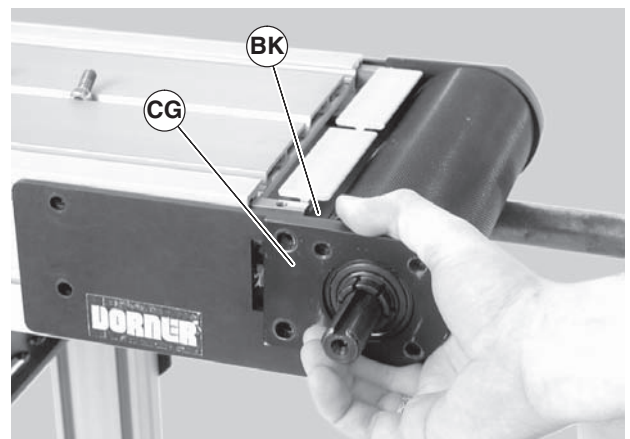

Figure 72
6. Remove the outer headplate assembly (Figure 72, item CG), and inner spacer (BK).